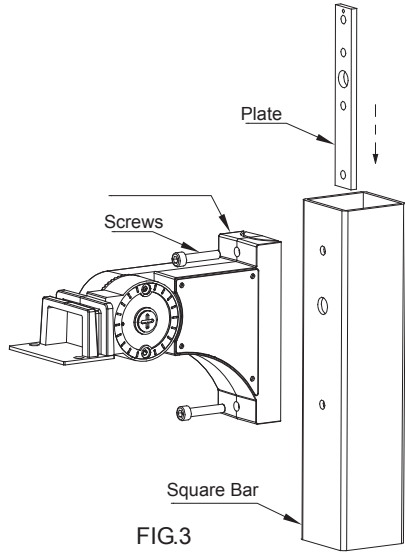
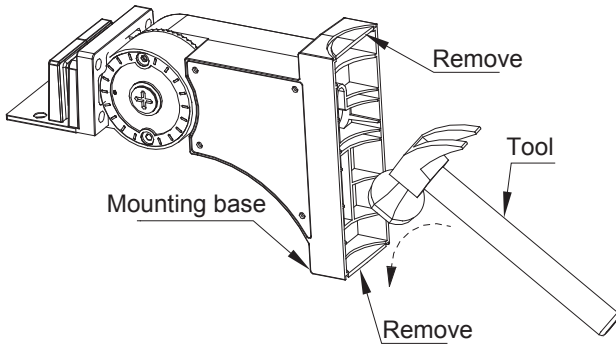

FIG.3
FIG.5
1. Install the arm base on the pole(See FIG.3), Need to make the base arc-shaped to fit the round pole(See FIG.5)